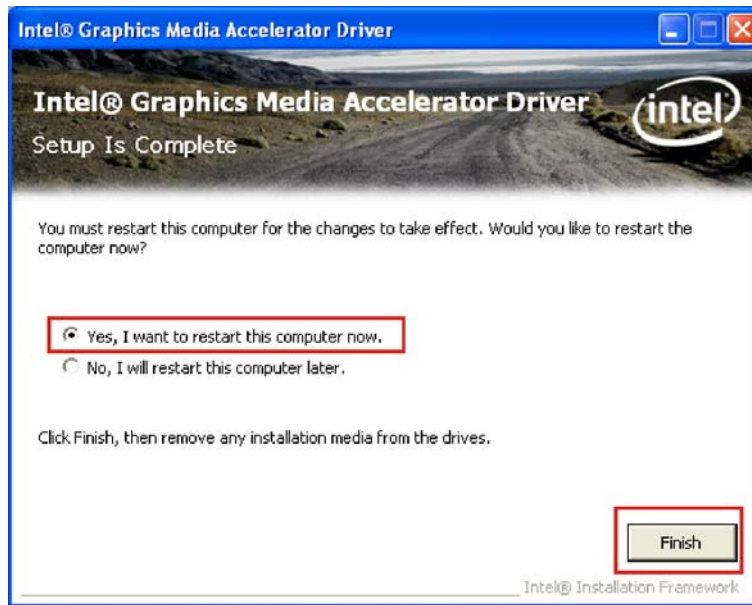

Figure 7-15: VGA Driver Installation Finish Screen
Step 16: Select “Yes, I want to restart the computer now” and click **FINISH**. See Figure 7-15.